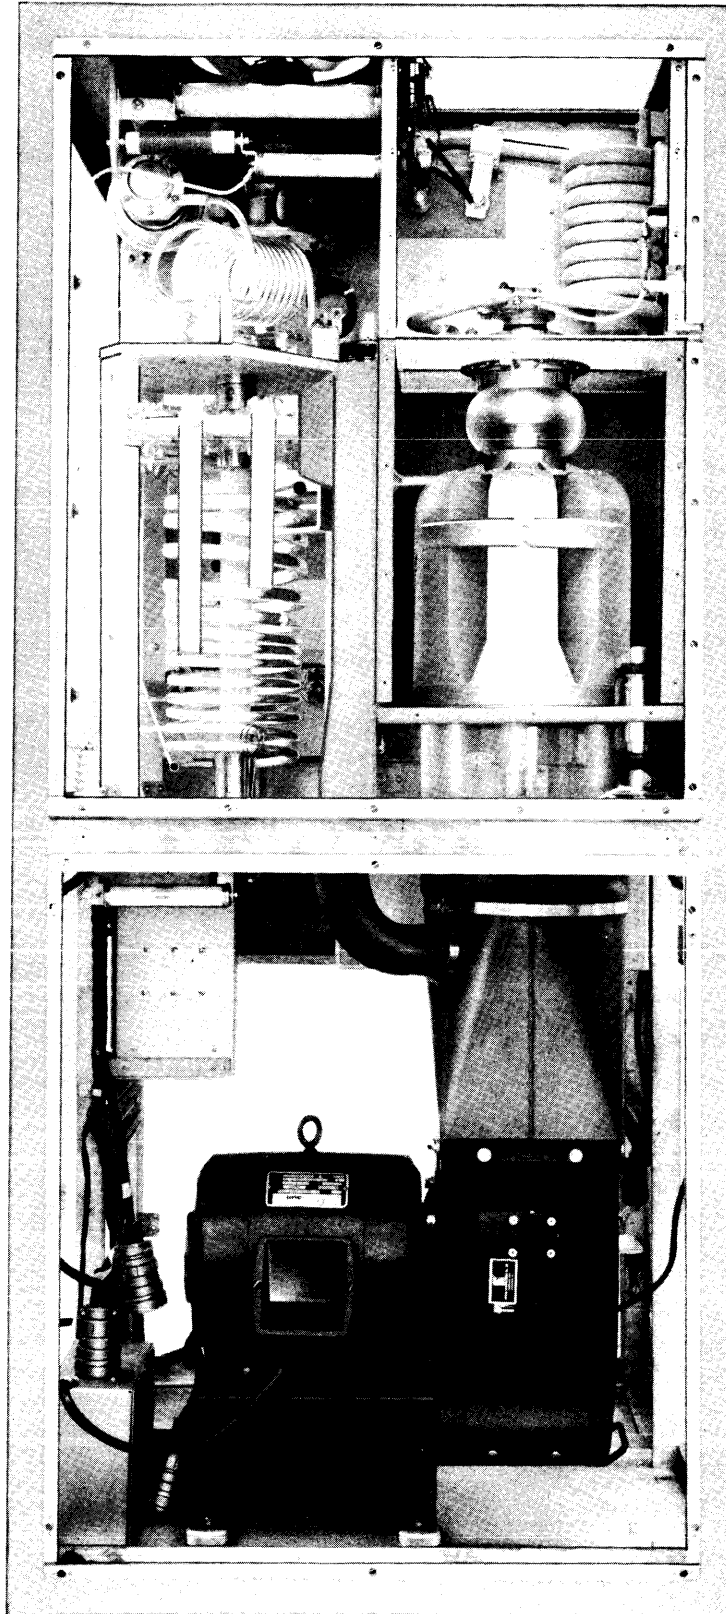

Figure 4-1-3. Overall Rear View, Third Frame, GPT-40K
- b. THIRD FRAME ASSEMBLIES. (See figure 4-1-3.) - See figure 4-1-1 for the overall front view of the PA(40K)'s RF and blower equipment, and filament transformer, compartments. Figure 4-1-3 shows the overall rear view of these compartments.